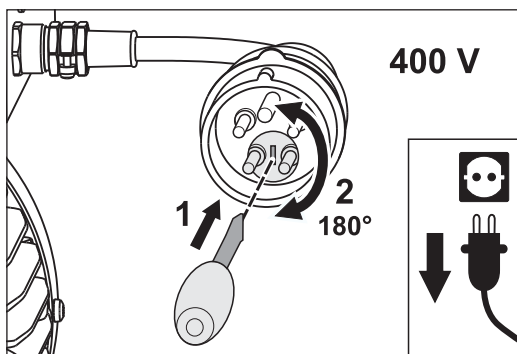

Fig. 28 Change the rotation direction of the motor by turning the phase changing switch at 180°.
- Put a screwdriver in the slit of the phase changing switch in the plug of the motor cable (Fig. 28, 1).
- To unlock the phase changing switch press the screwdriver in the slit and at the same time turn the screwdriver at 180° (Fig. 28, 2).
- To unlock the phase changing switch turn the screwdriver at 180° against a small resistance (Fig. 28, 2).